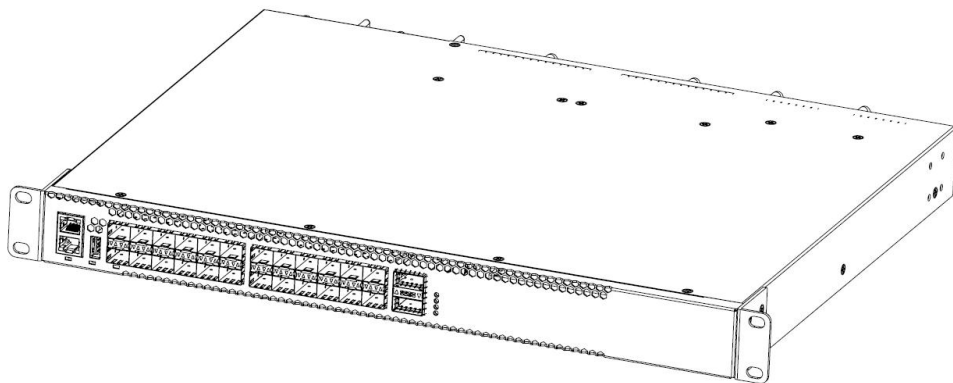

Figure 2-3 Schematic Diagram of Front Suspension Loop Installation
Step 3: Take out screws (packaged along with the front suspension loop), and install one end of the front suspension loop onto switch, as shown in Figure 2-3